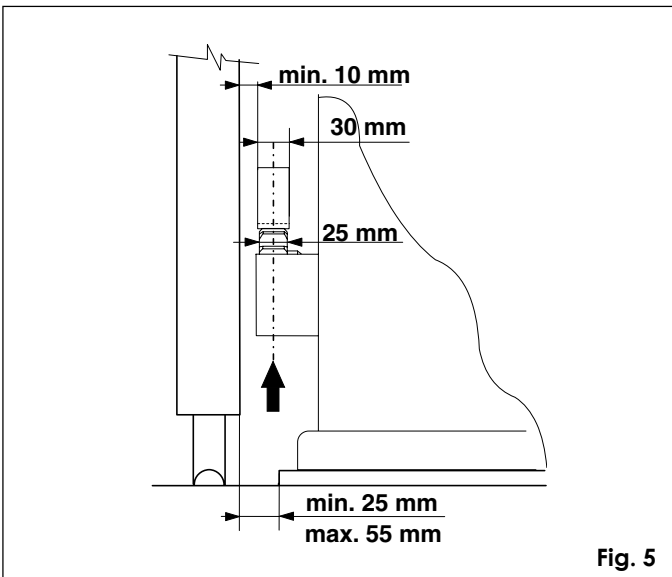
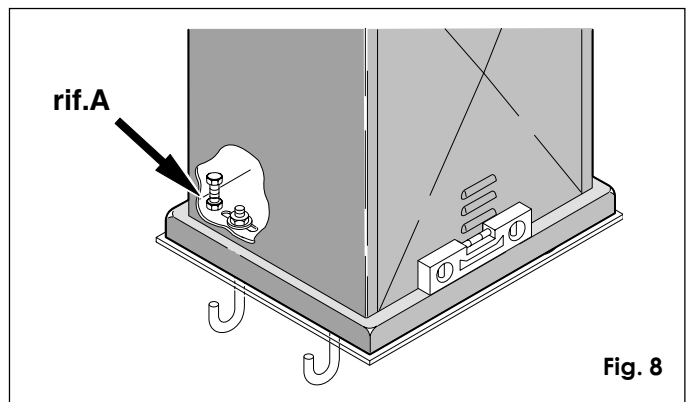
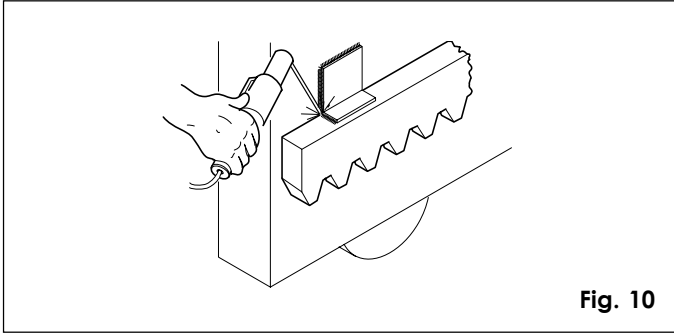

Fig. 5
Fig. 8
Fig. 10
For the positioning distances refer to fig. 5.
- 2) Adjust the height of the feet as shown in A, fig. 8 while keeping the gear motor raised from the plate by 1 cm and maintaining the distance from the gate shown in fig. 5.
- 3) Use a level to check that the operator is perfectly horizontal as shown in fig. 8.
**Important:** To mount the rack on the leaf it is necessary to construct special supports specifically for the type of gate. Fig. 10 shows an example of "L" support. For positioning the supports refer to figs. 5 and 9.
After installing the rack, lower the position of the gear motor by about 4 mm (fig. 12) by adjusting the level screws (A, Fig. 8) to ensure correct meshing with the pinion.